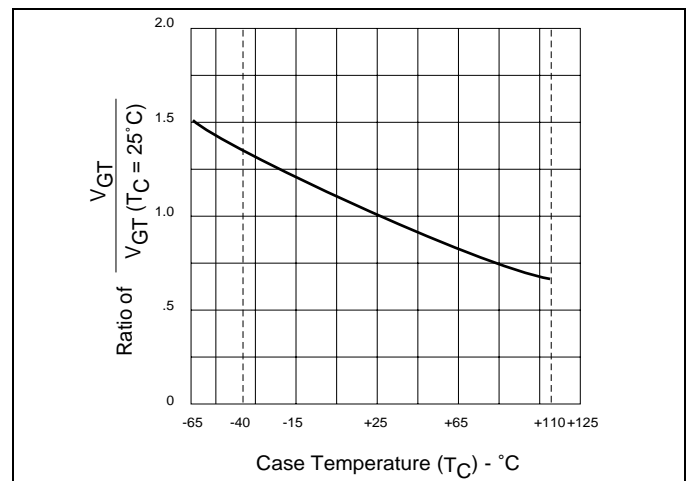

Figure 1.6 Normalized DC Gate Trigger Voltage for All Quadrants vs Case Temperature
- See Figure 1.6 for  $V_{GT}$  vs  $T_C$ .